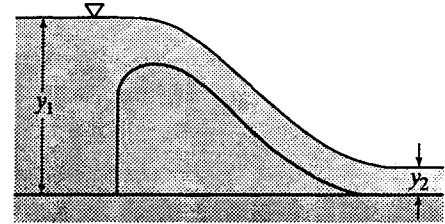

Figure X6.4.4
6.4.5 *Flow occurs over the spillway of constant section as shown in Fig. X6.4.4. Given that $y_1 = 4.2$ m and $y_2 = 0.7$ m determine the horizontal force on the spillway per meter of spillway width (perpendicular to the spillway section). Assume ideal flow.*